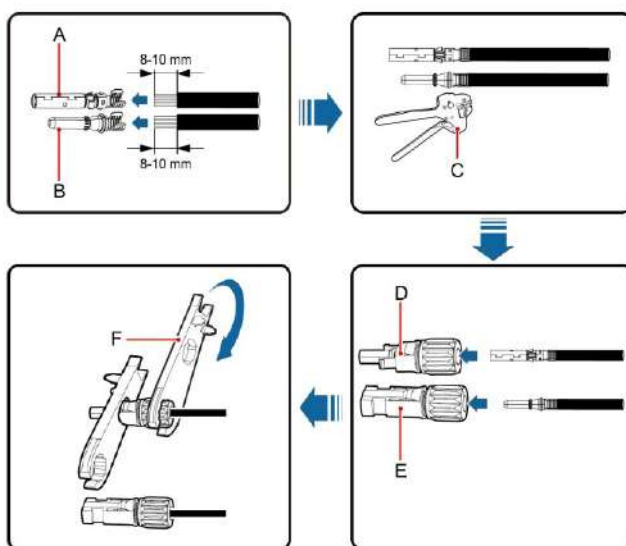

Figure 4.8 Connection between DC connector and solar modules
- (1) Lighting, short-circuit and other protection measures which meet the local electrical safety laws and regulations are needed before the AC connection.
- (2) Connect the output cables of solar modules to the DC connector of inverter as Figure 4.8 shows.